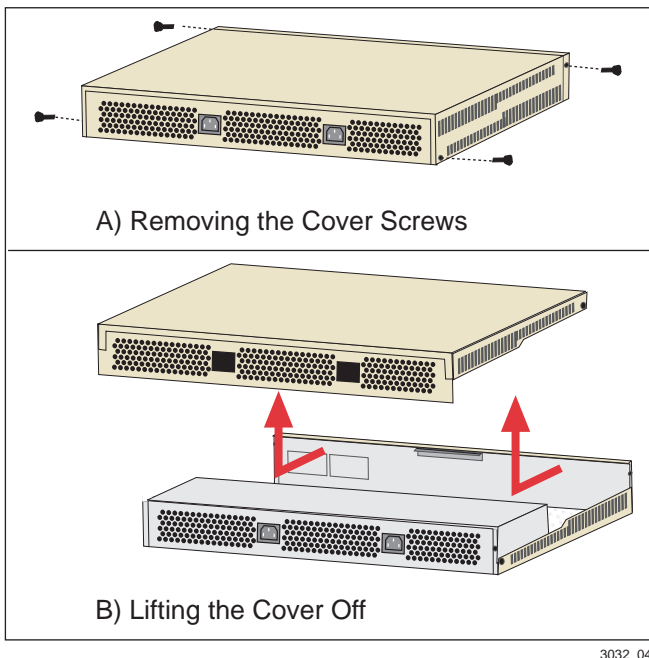

Figure 3-1 Removing the Chassis Cover
2. Use a Phillips screwdriver to remove the four screws that attach the chassis cover to the unit. (See **Figure 3-1**).